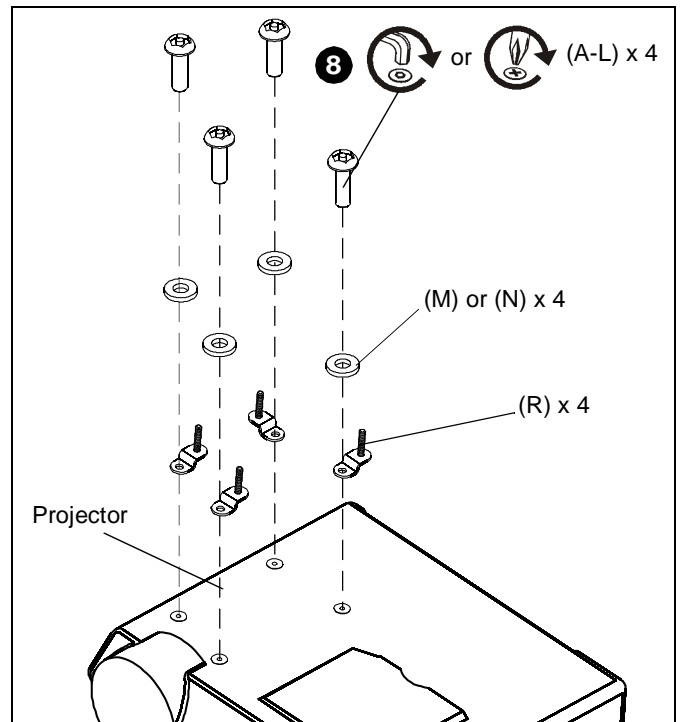

Figure 6
- Attach the projector security legs (R) to the projector, using the correct size screws (A-L) and washers (M or N) for your specific projector. (See Figure 6)